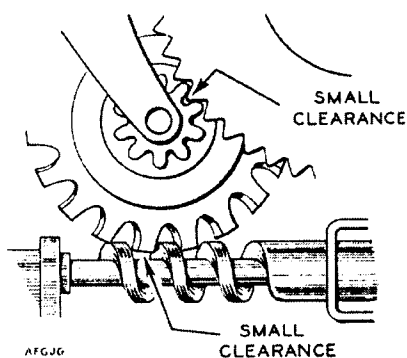

FIG. 7.—SETTING OF THE GOVERNOR GEAR
**13. Governor gear.**—The governor gear should engage the governor worm and main gear-wheel correctly. To test the running of the governor gear replace the main gear-wheel, fit the finger-plate temporarily and revolve it a few times; if the governor gear engages the governor worm or main gear-wheel too deeply, the dial will not run smoothly. The governor gear should be set as shown in Fig. 7. If satisfactory the dial should then be reassembled (see par. 30) and then adjusted.